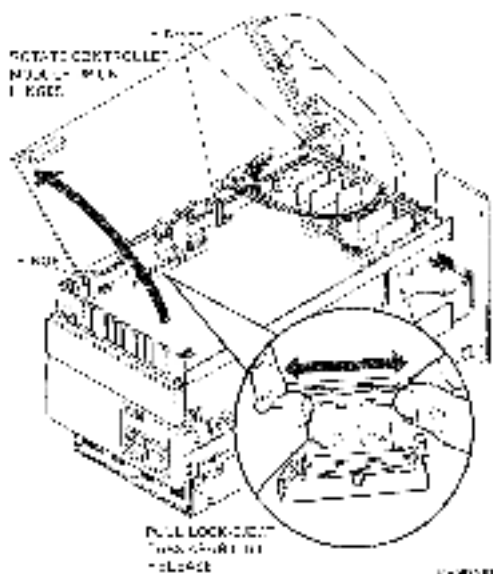

Figure 4-14 Removing the Controller Module
3. Rotate controller module up on its hinges to reach connecting plugs (Figure 4-14).
Perform this step for slave drive only. On the drive module, remove cable connectors at jacks J1 and J2 (Figure 4-14). Jacks J1 and J2 are the lock/slot type. Grasp two tabs at ends of jack and rotate out. This releases cable connector.